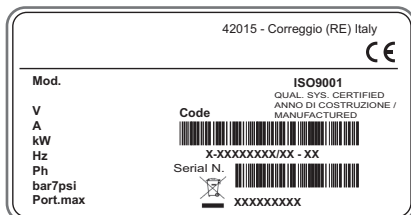

Fig. 1.14
- for the electric power absorbed by the machine, indicated on its data plate (Fig.1.14);
- install protection fuses on the power line that are suitably sized in accordance with the indications provided on the machine data plate (Fig.1.14);